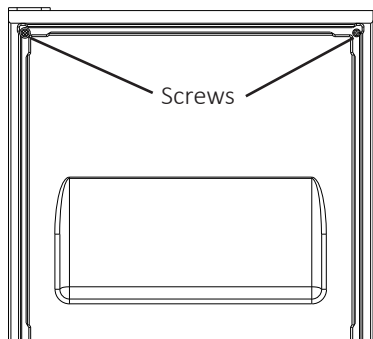

Fig. 14
- 2) Temporarily fasten the overlay panel to the door using 2 of the M4×25 pan head screws provided (See Fig. 14).